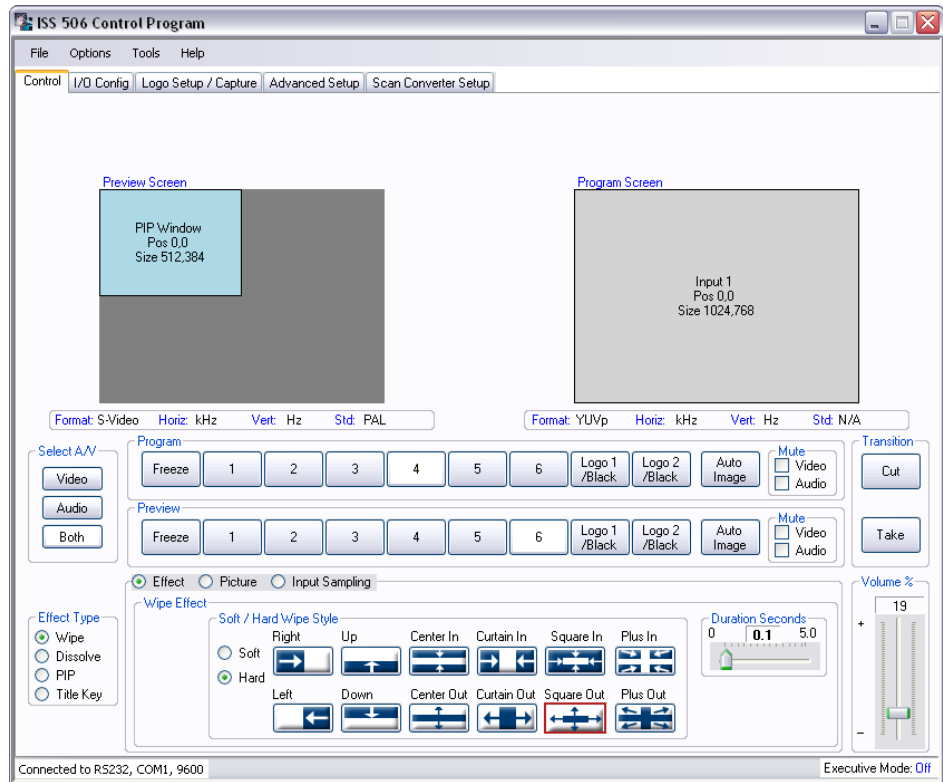

Figure 5-3 — Extron ISS 506 Control Program window
5. The Extron ISS 506 Control Program Control window (figure 5-3) appears.
Extron ISS 506 Control Program Control window (figure 5-3) emulates the front panel of the ISS and displays the current input selections and other settings available through the menu system. See chapter 3, "Operations" for description of these settings. Additional functions (audio breakaway and output mutes) are not available from the front panel.